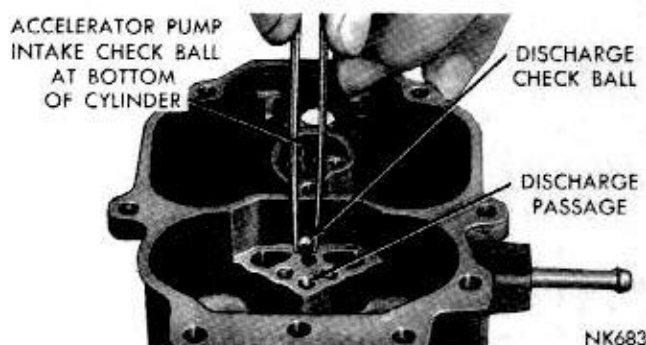

Fig. 9—Installing Accelerator Pump Discharge Check Ball
(2) Install accelerator pump discharge check ball (5/32 inch diameter) in discharge passage, (Fig. 9). Drop accelerator pump intake check ball (3/16 inch diameter) into bottom of the pump cylinder.